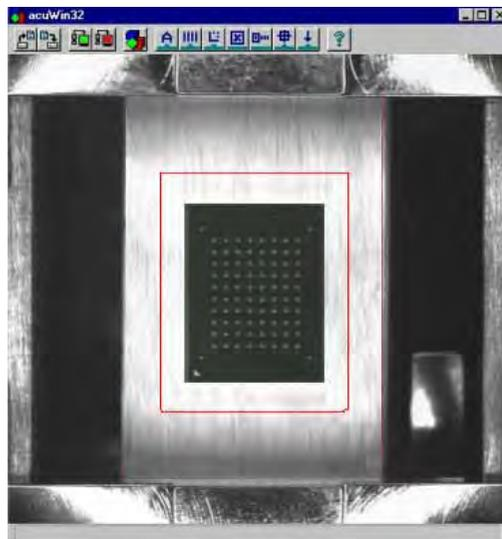

Figure 3-36—Set device search area (red rectangle) around device
- 7c) Set the device search area (red rectangle in Figure 3-36) around the device so that it is 30-50% larger than the device. To adjust the device search area, place the arrow on any red line, hold down the left touchpad button, and use the touchpad to drag the line.